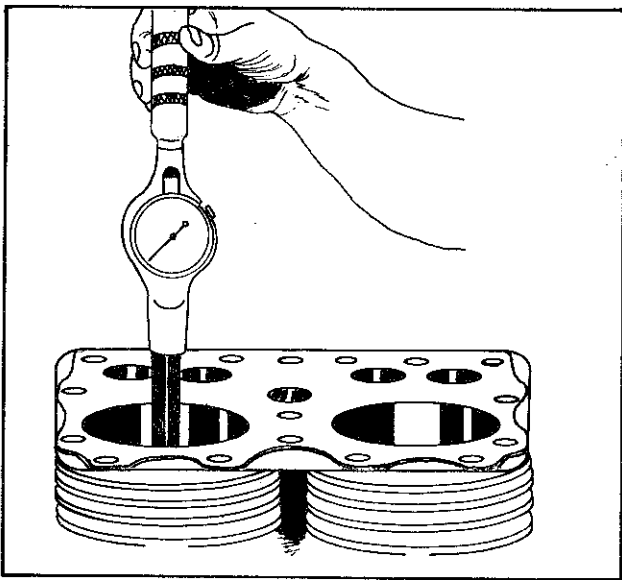

Figure IV-15 Measuring Cylinder Bore
2. Cylinder Bore (see fig. IV-15)